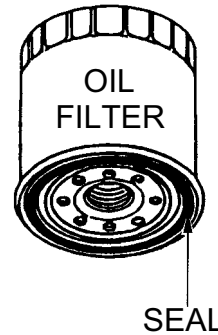

Figure 53. Oil Filter
- Apply a film of oil to the gasket/rubber seal (Figure 53) on the new oil filter